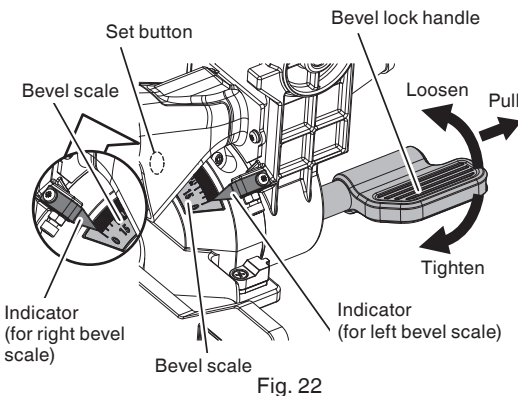

Fig. 22
- (1) Loosen the bevel lock handle and bevel the saw blade to the left or to the right. When tilting the motor head to the right, push the set button.
- (2) Adjust the bevel angle to the desired setting while watching the bevel angle scale and indicator, then secure the bevel lock handle. When contacting the work bench and the main body, pull the bevel lock handle in the direction of the arrow mark as illustrated in Fig. 22, and change the direction of the bevel lock handle.
- (3) Turn the LED light on and position the workpiece on the table for pre-alignment of your cut.
(4) By using angle block (A) and angle block (B), you can easily set up bevel angles of 33.9°, 45°, or 48°. For details, see the “Bevel angle 33.9°, 45°, 48°” section on page 19.